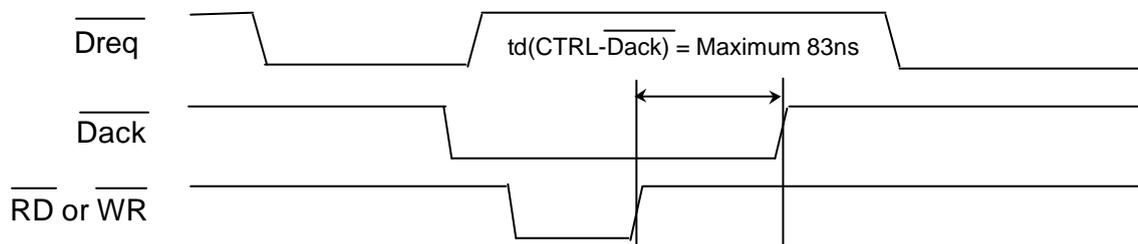

Figure 3-4 M66290 DMA Transfer Timing (Single-word mode)
* Note that the M66290 may stop the /Dreq signal according to the timing of /Dack in single-word transfer operation mode. In single-word transfer mode, the hardware must be designed so that the maximum period from rising of /RD or /WR to rising of Dack will be within 83ns. (See Figure 3-4..)